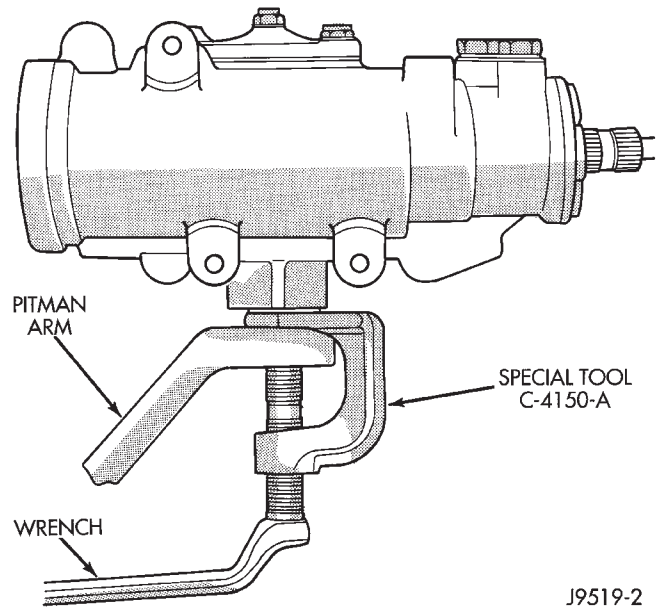

Fig. 5 Pitman Arm Removal
- (1) Remove the cotter pin and nut from the drag link at the pitman arm.
- (2) Remove the drag link ball stud from the pitman arm with a puller.
- (3) Remove the nut and washer from the steering gear shaft. Mark the pitman shaft and pitman arm for installation reference. Remove the pitman arm from steering gear with Puller C-4150A (Fig. 5).